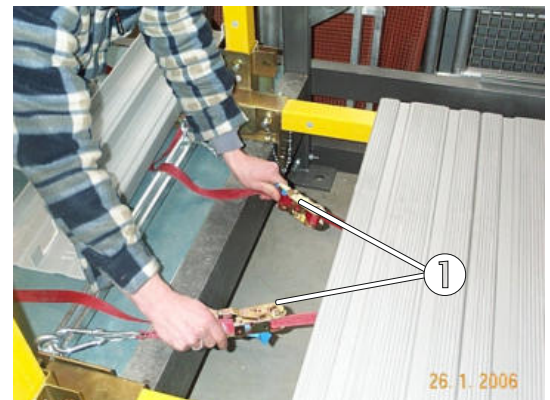

Fig. 34: Apply ratchet and trail the excess tension belt down the lift shaft
When the belts have been placed under maximum tension, the ratchet lever must be applied and the excess belt allowed to trail into the shaft. This can prevent accidents/ tripping (fig. 34/pos. 1).